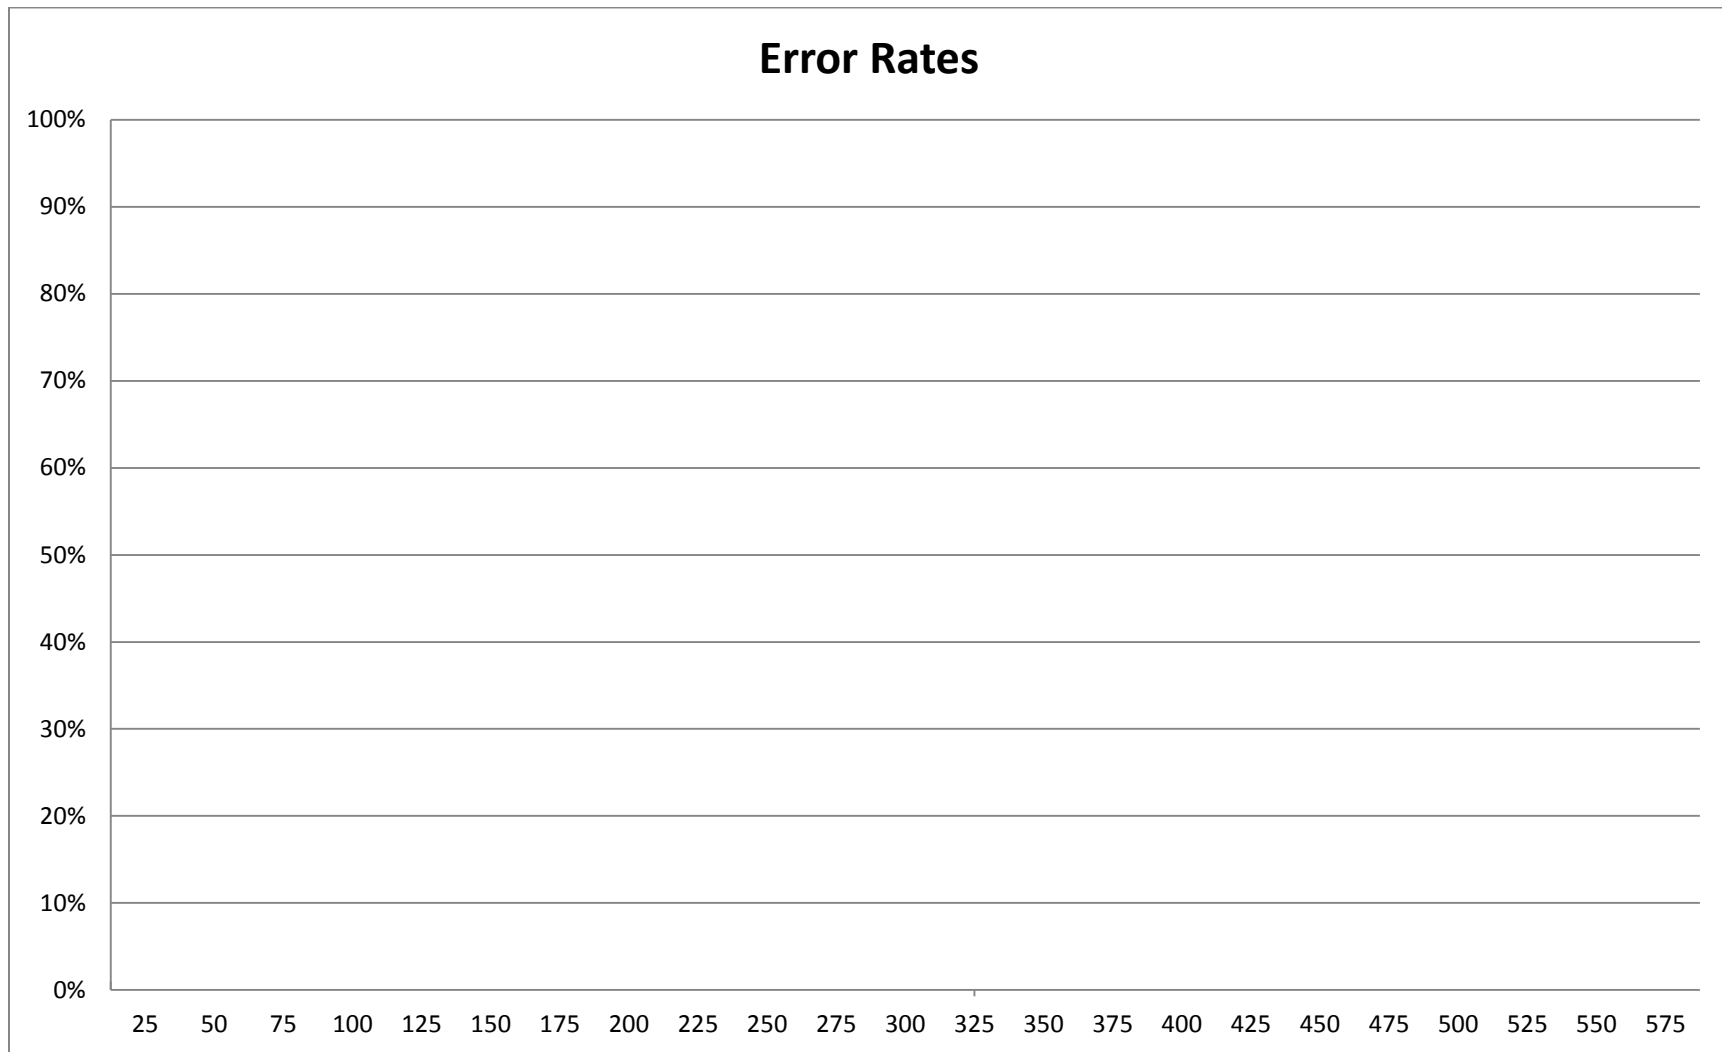

Figure 2: Plotting Error Rates
1. Once a percent rate for a given threshold has been calculated then that point can be plotted on the graph form (Figure 2). Use a different color pencil for the two types of error rates. For example use blue for False Reject and use red for False Accept.